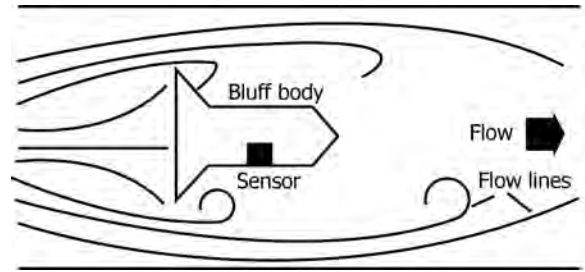

FIGURE 4.38 Major components in a vortex shedding flow meter.
- The basic components of a vortex shedding flow meter are illustrated in Figures 4.38 and 4.39.